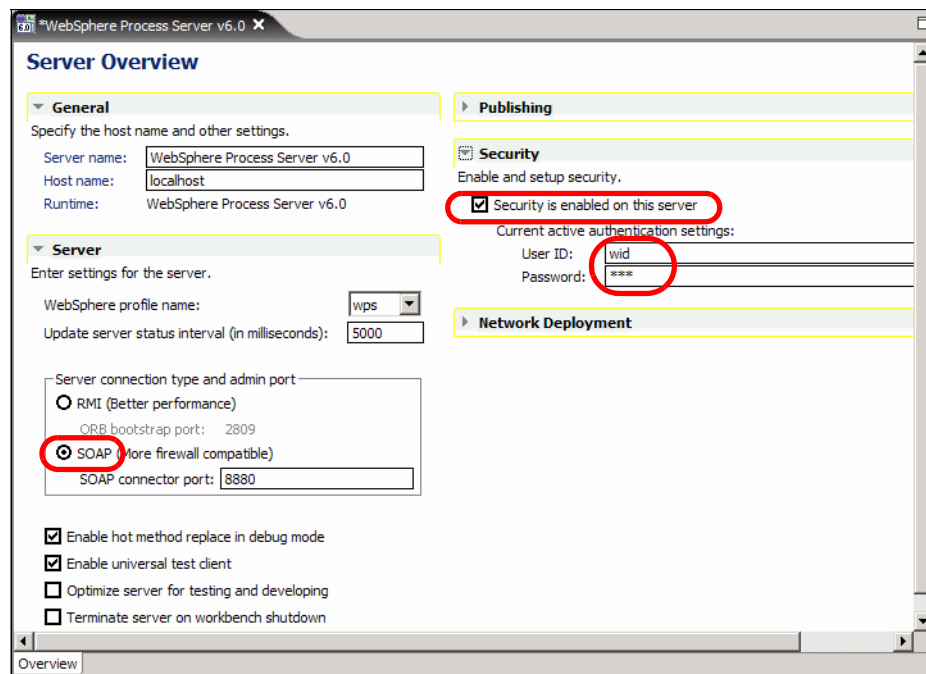

Figure 11-9 Server configuration in Integration Developer
- ▶ Select the server in the Servers view and *Open* (Figure 11-9).